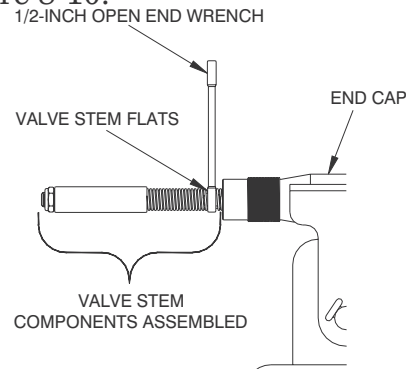

Figure 8-10. Hold Valve Stem Across Flats.
1. With the End Cap secured as in 8.9.1, hold the Valve Stem (11) at its flats with an 1/2-inch open-end wrench. Refer to Figure 8-10.